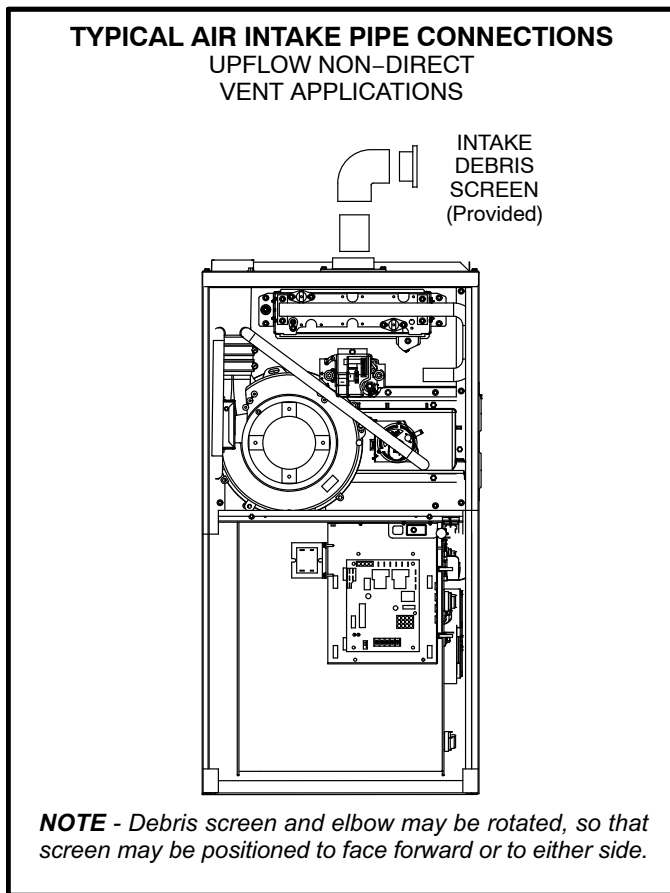

FIGURE 27
- 1 - Use field-provided materials and the factory-provided air intake screen to route the intake piping as shown in figure 27 or 28. Maintain a minimum clearance of 3" (76mm) around the air intake opening. The air intake opening (with the protective screen) should always be directed forward or to either side in the upflow position, and either straight out or downward in the horizontal position.